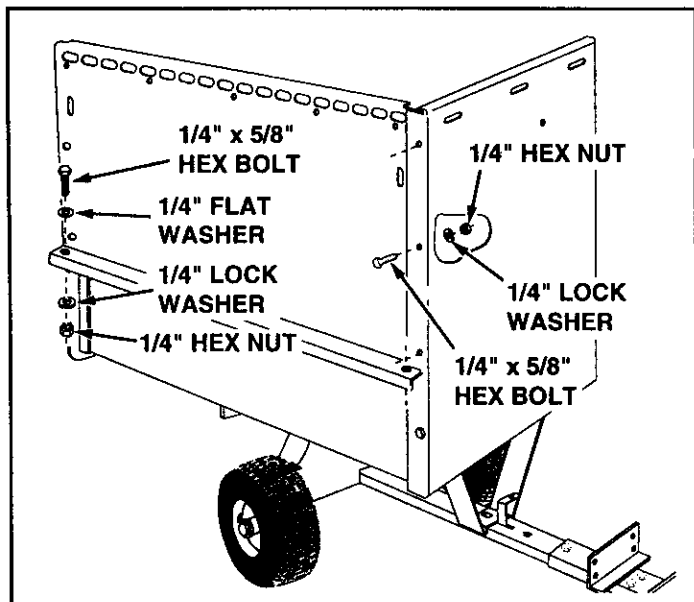

FIGURE 12
- Place a side panel down onto the cart, fitting it **inside** the front panel. Fasten the side panel to the front panel using three 1/4" x 5/8" hex bolts, 1/4" lock washers and 1/4" hex nuts. Fasten the side panel to the cart bed flange using two 1/4" x 5/8" hex bolts, 1/4" flat washers, 1/4" lock washers and 1/4" hex nuts. **Tighten**. See figure 12. Repeat on other side.